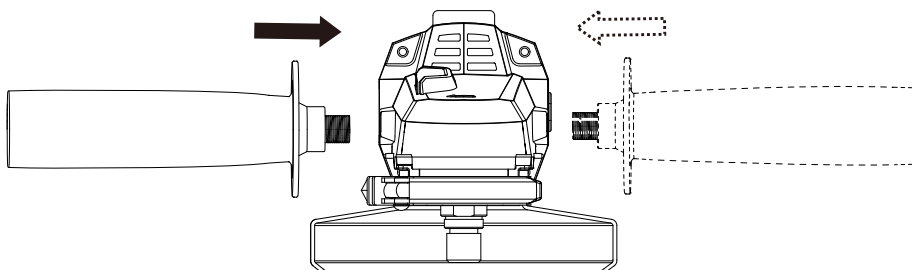

Figure 5
2. INSTALLING AND ADJUSTING AUXILIARY HANDLE (SEE FIG. 5)